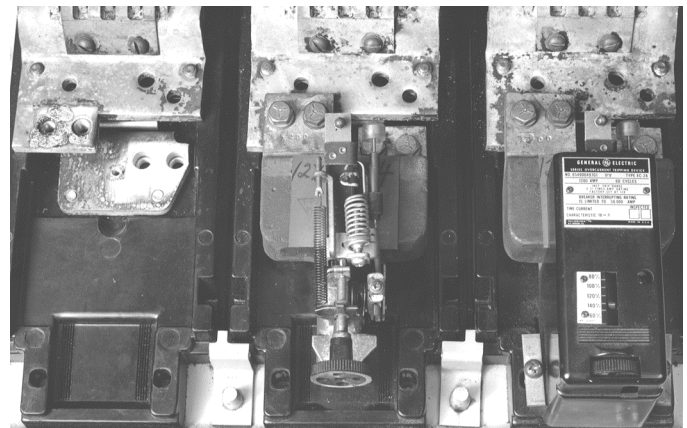

Figure 17. Removal of EC trip devices.
3. Remove and discard the four 5/16" Allen-head bolts securing each trip coil. The coil can then be lifted off and removed. Figure 17 shows one trip completely removed, one with the cover removed, and one still in place.